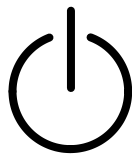

Figure 2. Stand-by symbol on the power supply unit
- Figure 2. Stand-by symbol on the power supply unit **15**
The symbol shown in Figure 2 is used to denote the stand-by position of the power supply unit power switch.